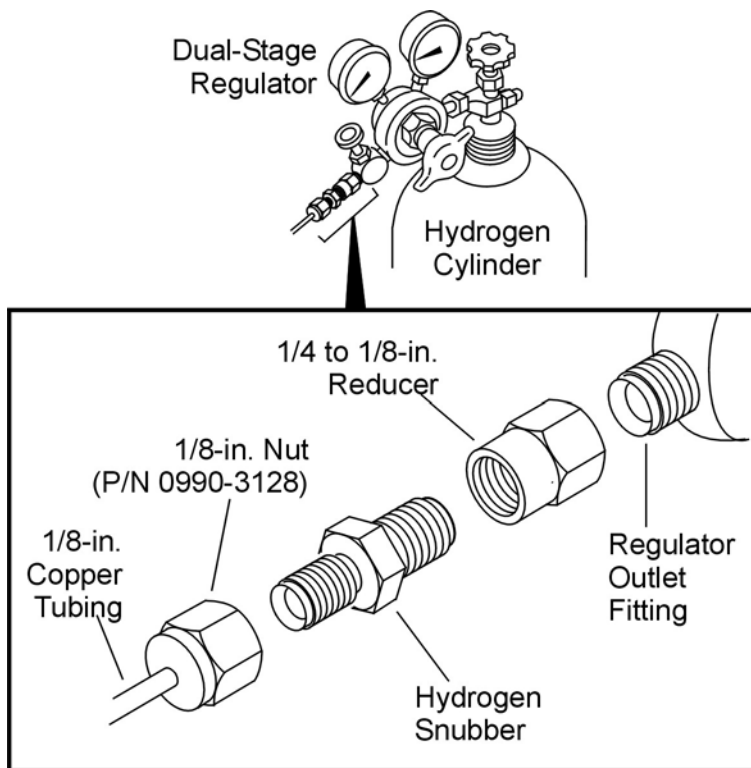

Figure 9. Connecting a hydrogen snubber.
3. Insert a hydrogen snubber (P/N 0009-0038) in the hydrogen cylinder regulator outlet fitting as shown in Figure 9. Use a 1/4-in. to 1/8-in. reducer (P/N 0990-3212) between the snubber and the regulator.